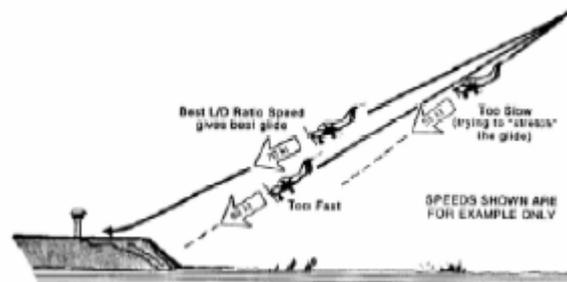

FIG 1.8. - GLIDE AT THE RECOMMENDED SPEED TO OBTAIN BEST STILL AIR RANGE
**1027.** Achieving maximum gliding range is when the aircraft is flown at the best angle of attack that is the best lift/drag ratio. Should the pilot change the angle of attack then the ratio reduces and the glide path will need to be steeper. The result being a reduced distance covered. (FIG 1.8.).